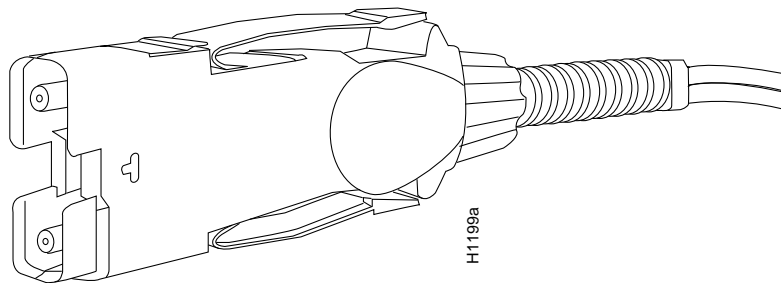

Figure 3-3 FDDI Multimode MIC Connector for Network and Chassis Connections
- FDDI multimode MIC connector for network and chassis connections, Figure 3-3
The MIC connector shown in Figure 3-3 is used with the APP-LMM, APP-LMS, and APP-LSM appliques.